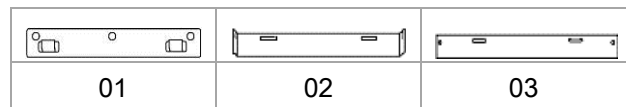

Fig. 1
- Affix the brackets (01) for the hood body and (02) for the upper shaft end at the pre-marked positions using the screws 5x ST4x40mm (**Fig. 1**).